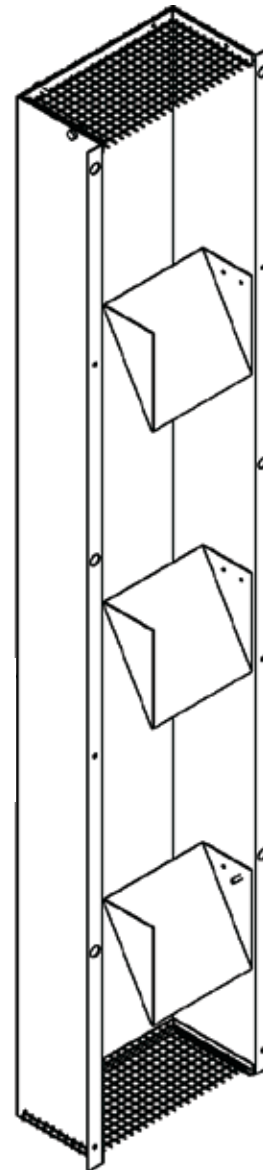

FIG. 2-12 – COMBUSTION VENT
- See Figure 2-12 for the proper orientation of the combustion vent. The internal baffle(s) must direct the flue gases upward.